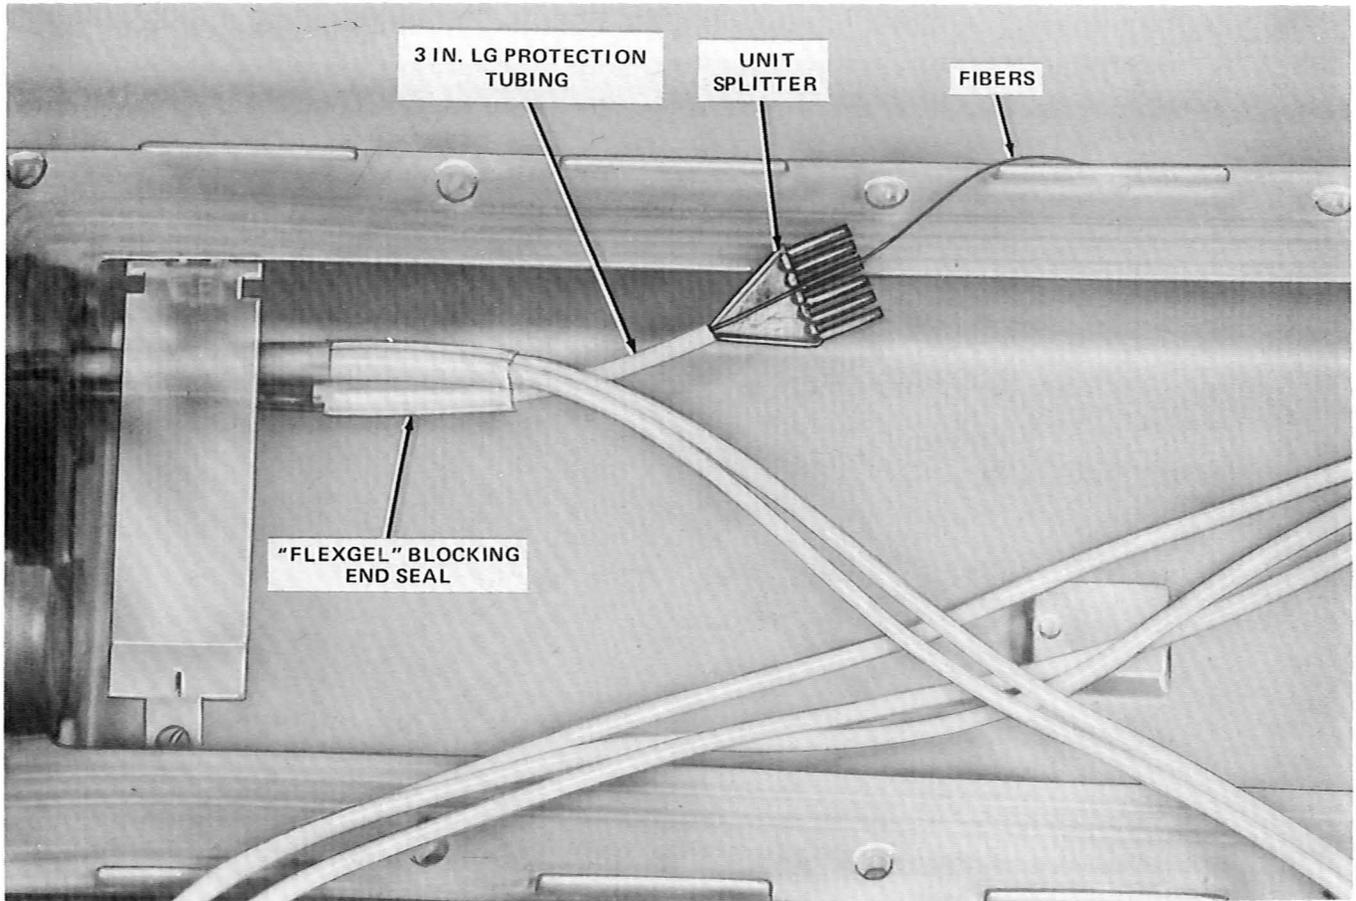

Fig. 54—Unit Splitter Installed on Multiunit Stranded Cable
8.02 If the unit splitter is used with *stranded unit cable*, use a 3-inch length of protection tubing to make the end seal instead of the 17-inch length of tubing. Cut 3 inches from the 17-inch section and use the remainder to route to the fiber storage leaf. Place the fibers into the slot in the splitter entrance port and slide the splitter into the protection tube. (See Fig. 54.)